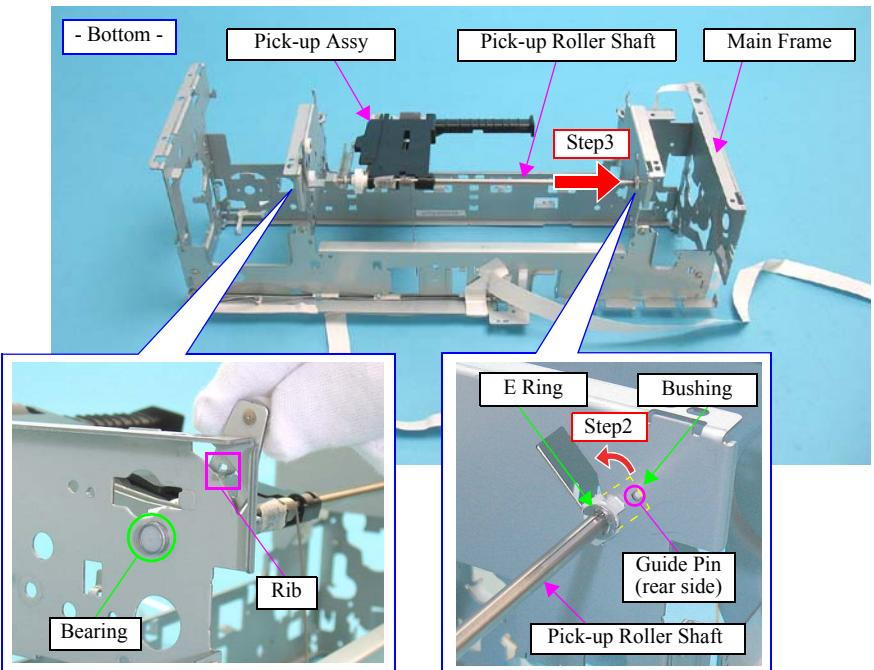

Figure 4-210. Removing the Pick-up Assy
- Insert the rib of the Pick-up Lever shown in *Figure 4-210* into the hole of the Main Frame.